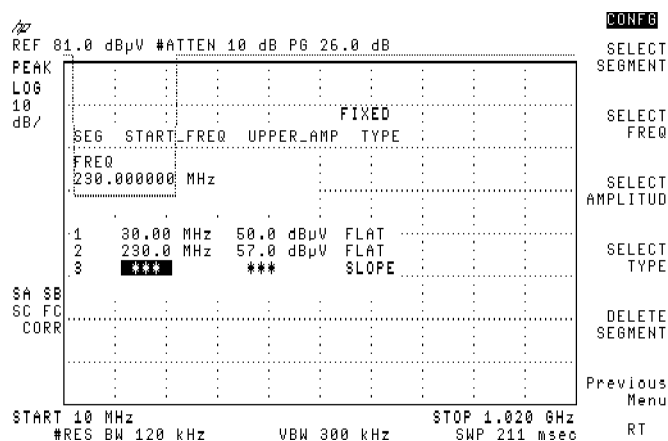

Figure 3-69. Entering the Second Limit-Line Segment
18. Press **SELECT TYPE**, then **FLAT**. See Figure 3-69.